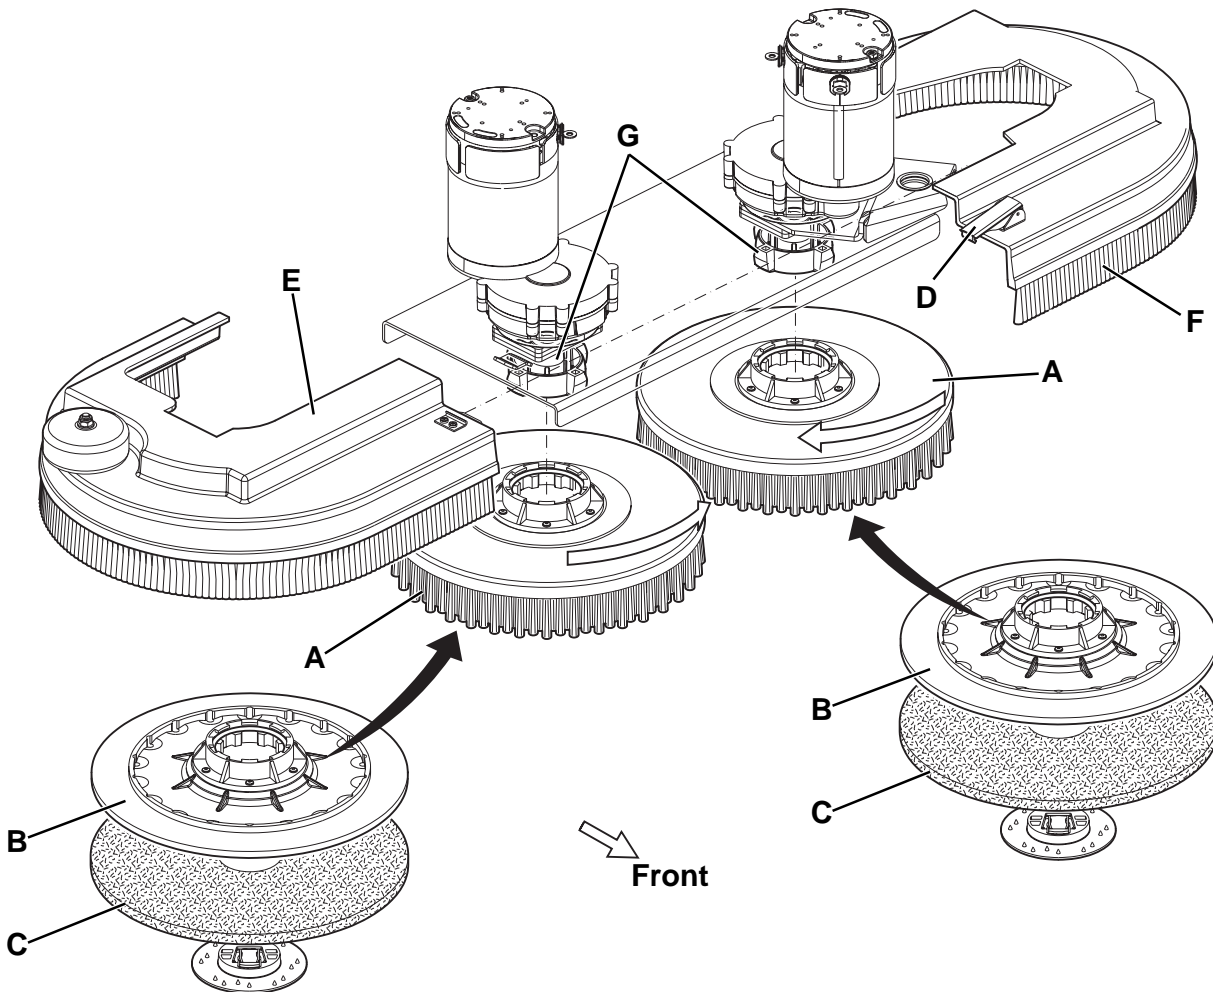

Figure 1
According to the kind of cleaning to be performed, the machine can be equipped either with brushes (A, Fig. 1) or pad-holders (B) with pads (C).